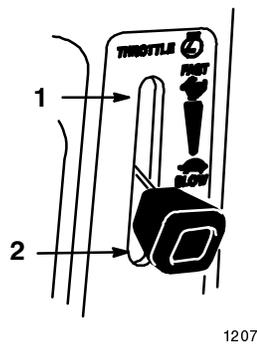

Figure 4
5. Move throttle lever to “FAST” (Fig. 4).
- Move the throttle lever to “SLOW” (Fig. 4).